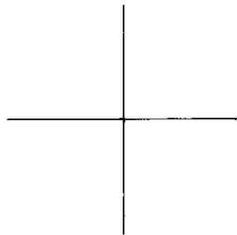

FIGURE 10-2. PEN-PEN TEST
2. At the PEN-PEN TEST menu, press the **ENTER** key to start the test. The pen changer cycles through all eight pens and draws a cross with each pen as shown in Figure 10-2.